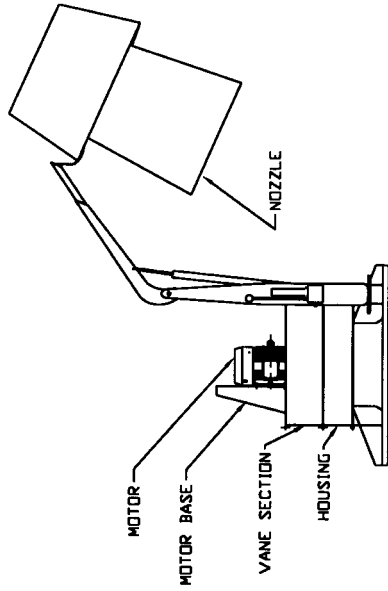

FIGURE 4
- 5) Lift the nozzle away from the fan using the lifting arm and lower it to the side of the plenum. (Figure 4)
- 5) Unbolt the housing from the vortex breaker, leaving the vane section, motor base and acoustical silencer nozzle bolted together. (Figure 4).
- 7) The fan must be raised level, be sure that the chain at the hole in the motor base is short enough to provide a level and even lift. (Figure 4).